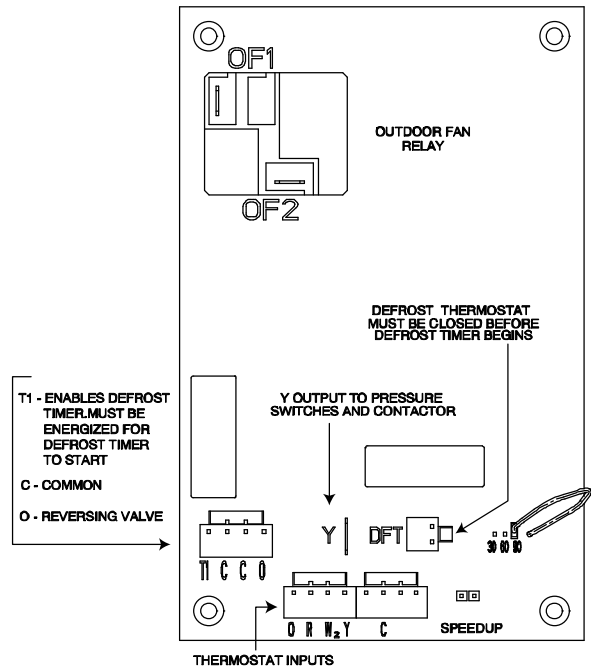

Figure 14 - Defrost Control
- 4. Jumper between DFT and R terminals on control board as shown in Figure 14.